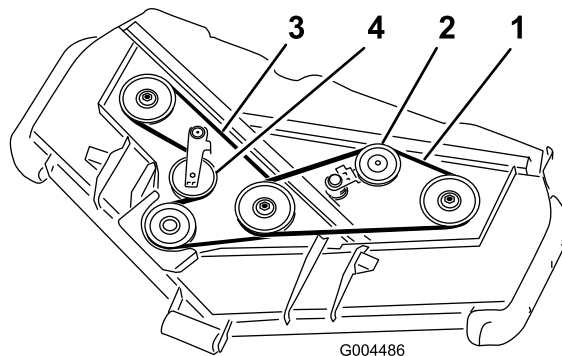

Figure 59
3. Using a breaker bar or similar tool, move the idler pulley for the top belt (Figure 59) away from the top drive belt to release the belt tension and allow the belt to be slipped off the pulleys.
4. Using a breaker bar or similar tool, move the idler pulley for the bottom belt (Figure 59) away from the bottom drive belt to release the belt tension and allow the belt to be slipped off the pulleys.
5. Route a new belt around the gearbox pulley, bottom spindle pulleys, and idler pulley assembly as shown in Figure 59.
6. Route a new belt around the top spindle pulleys and idler pulley assembly as shown in Figure 59.